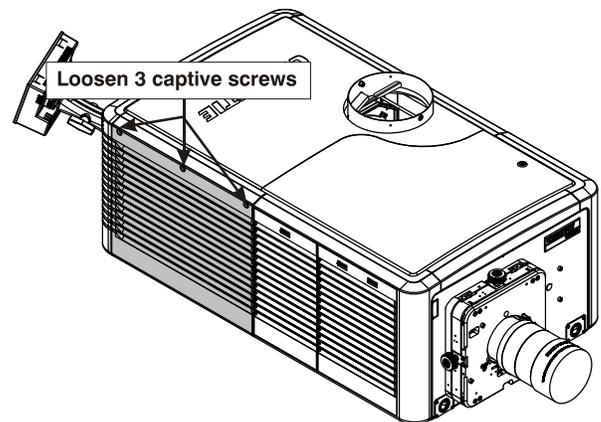

Figure 5-8 LVPS/LPS Cover
1. Using a #2 Phillips™, loosen the three captive screws from the top of the cover (**Figure 5-8**).
5. Remove the LVPS/LPS cover (**Figure 5-8**).